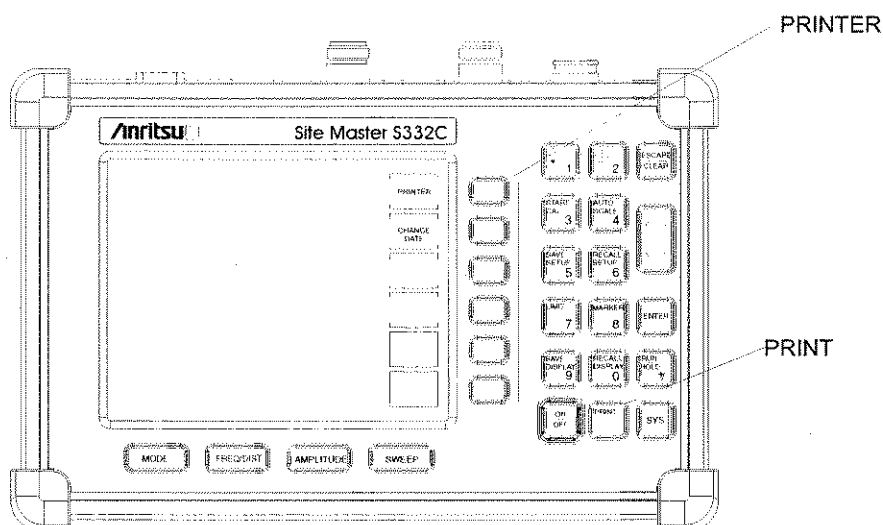

Figure 3-6. *PRINTER Soft Key and PRINT Key*
**Step 5.** Press the **PRINT** key. (Figure 3-6).